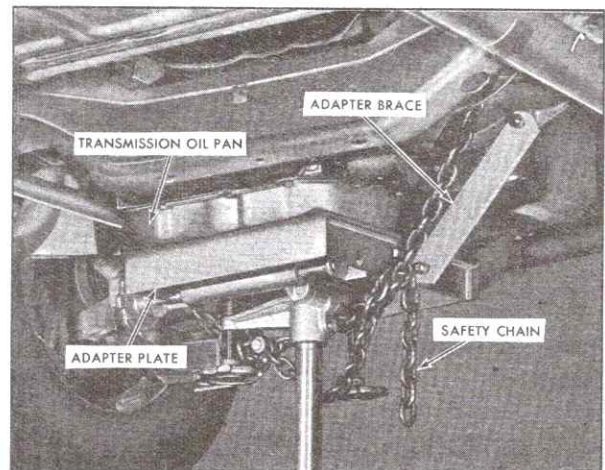

Fig. 7-135 Positioning Transmission Jack to Transmission
22. Position transmission jack, equipped with front end drive transmission adapter plate, to transmission and install nut and bolt securing adapter brace to transmission at starter motor lower mounting bolt hole, Fig. 7-135.